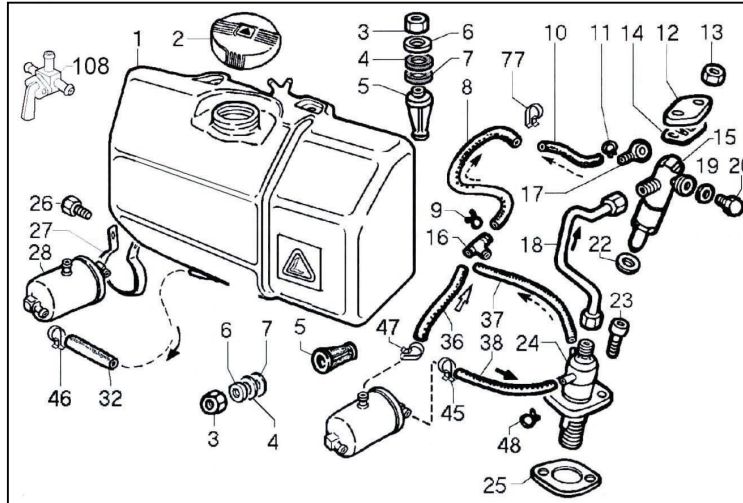

Figure 28
8.7.3 Fuel Filter Cartridge (figure 28, #28)
The primary fuel filter cartridge (figure 28, #28) is mounted below the fuel tank (figure 28, #1).
1. Loosen the support bolt (figure 28, #26) and bracket (figure 28, #27) that hold the fuel filter (figure 28, #28) to the engine.
2. Loosen fuel clamps (figure 28, #45, #46 & #47) and pull the three fuel hoses (figure 28, #32, #36 & #38) from the fuel filter (figure 28, #28).
3. Remove the fuel filter (figure 28, #28) and replace.